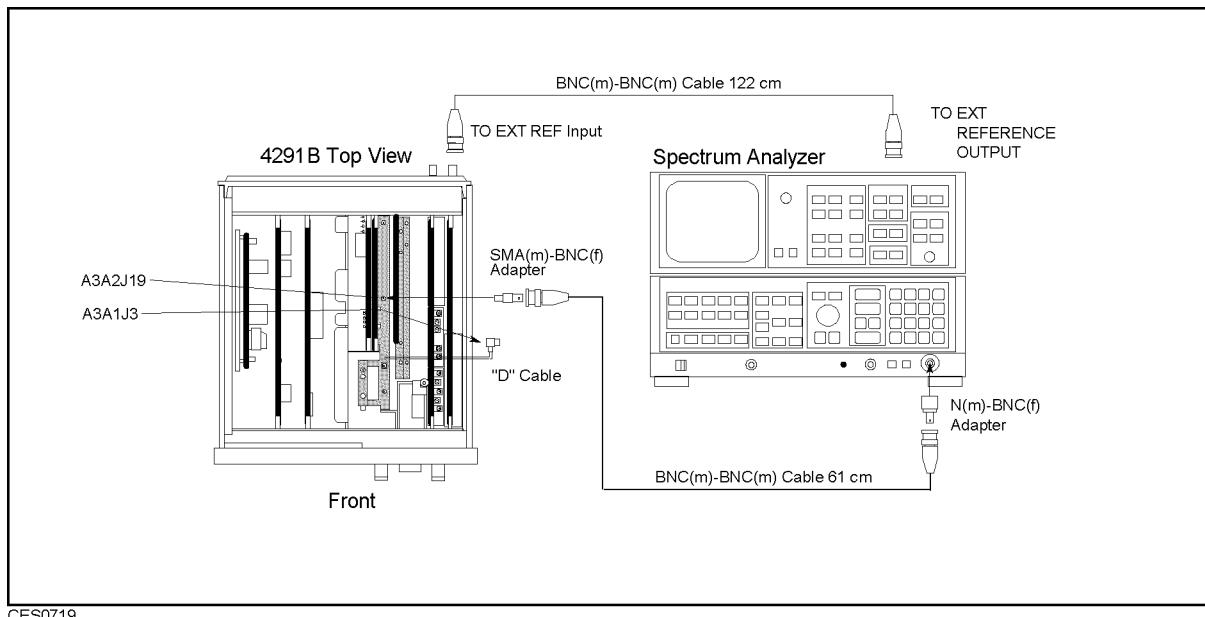

Figure 7-19. 2nd LO OSC Test Setup
- Remove the "I" semi-rigid cable from A3A2J19 and remove the "D" cable from A3A1J3. See Figure 7-19 for the locations of A3A2J19 and A3A1J3. Then connect the equipment as shown in Figure 7-19.